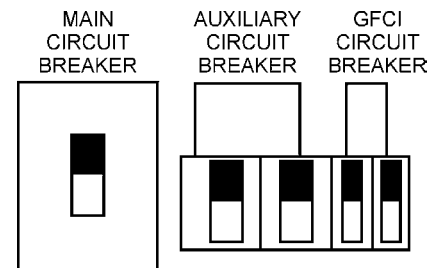

Figure 48. Main, Aux. and GFCI Circuit Breakers (ON)
12. Place the **main, GFCI, and aux.** circuit breakers in the **ON** position (Figure 48).